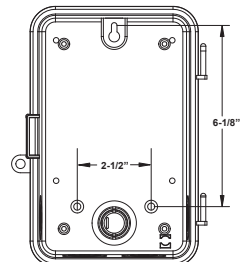

Figure 2 - Rear View of Enclosure with mounting hole dimensions
4. Place the enclosure in the desired mounting location, and mark the three mounting holes (refer to Figure 2 for dimensions). Install the top screw first with one of the supplied spacers, and then hang the enclosure by the keyhole. Drive the remaining two screws at the bottom of the enclosure through the mounting holes while passing each screw through one of the supplied spacers and in to the wall.